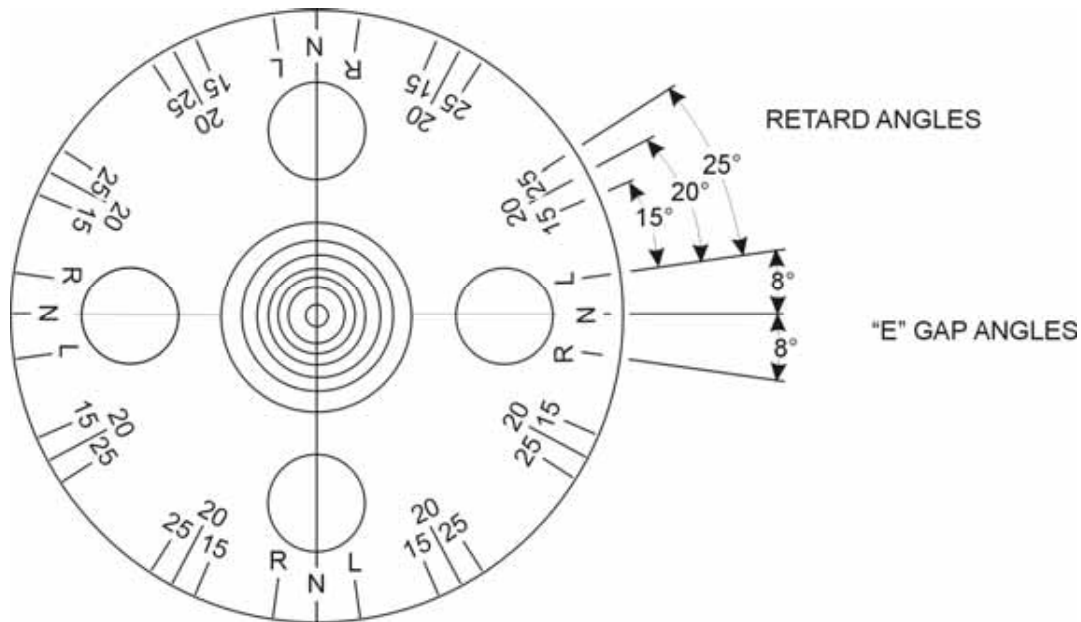

Figure 5-2. Timing Marks on Rotating Magneto
- (3) *Retard Breaker* – Remove timing light leads from the main breaker terminals. Attach one positive lead to retard breaker terminal, and second positive lead to the tachometer breaker terminal, if used.
- (4) Back the engine up a few degrees and again bump forward toward number one cylinder firing position until pointer is aligned with 15° retard timing mark. See Figure 5-2. Retard breaker should just open at this position.
- (5) If retard timing is not correct, loosen cam securing screw and turn the retard breaker cam as required to make retard breaker open per paragraph d(4). Retorque cam screw to 16 to 20 in.-lbs.